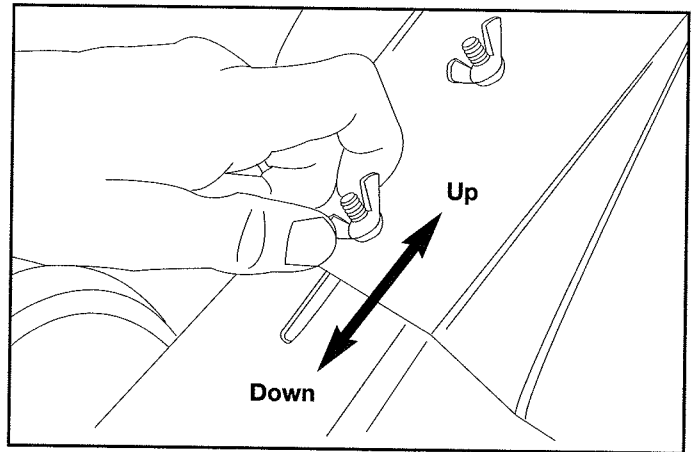

Fig. 19
2. Loosen (do not remove) the two wing nuts on the tine guard (Fig. 19).